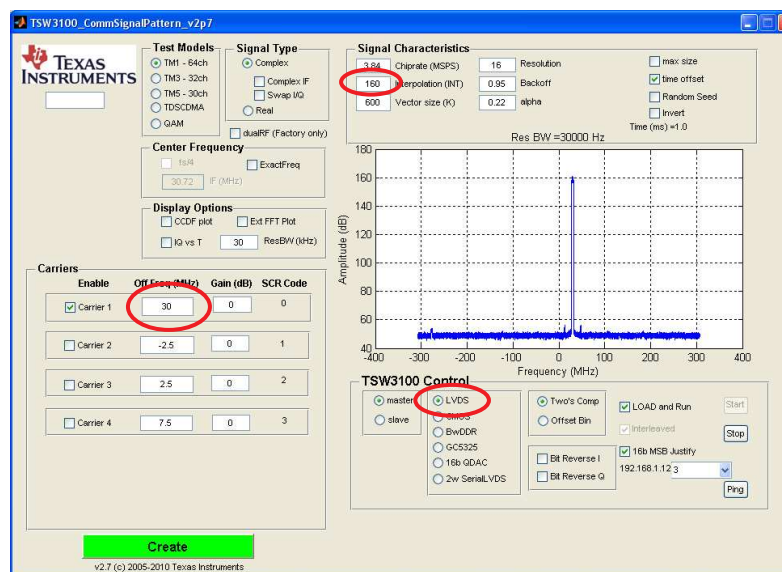

Figure 13. TSW3100 GUI for LVDS DDR Format
- For TSW3085 and TSW30H84, configure the TSW3100 to output a 614.4 MSPS, LVDS DDR format, 30-MHz IF Single-Carrier WCDMA output. See Figure 13 for details.